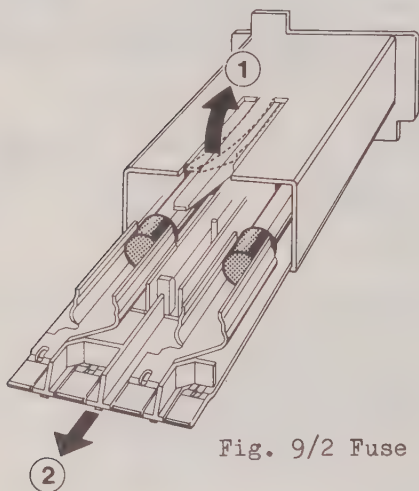

Fig. 9/2 Fuse holder
- Remove fuse holder (Fig 9/2) as per section 3.1.
- Raise catch (1, Fig. 9/2) and withdraw holder body (2).